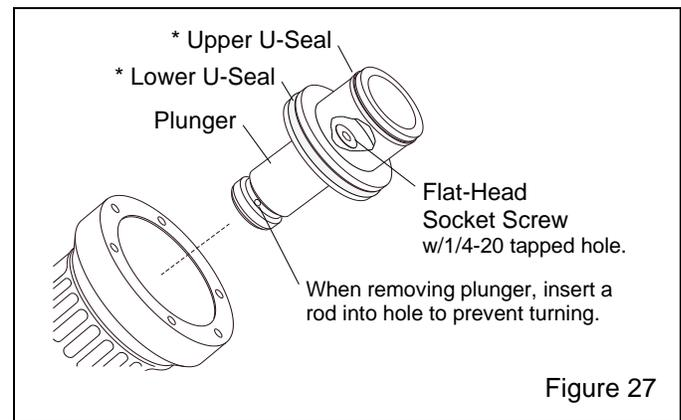

Figure 27
7.3.1.4 Refer to Figure 27 and grip the edge of the dual piston, and pull the piston/plunger assembly from the body. If unable to remove the piston by hand, screw a long 1/4-NC screw into the threaded center of the socket-head screw, grip the screw, and pull out. If the piston is too tight to remove by hand, use a puller attached to the screw. Remove the screw after the piston is removed.